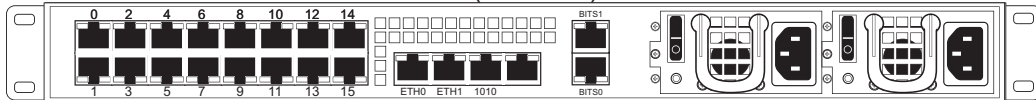

Figure 1.3 7800-TMS Front and Rear Views
- Based upon the configuration of your 7800 series gateway, the number of 7800-TMS media switch(es) may range from zero (0) to two (2). See figure 1.3 on page 3.
- One 7800-TMS unit (TMG7800-TMS or TMGIP7800-TMS). See figure 1.3 on page 3.